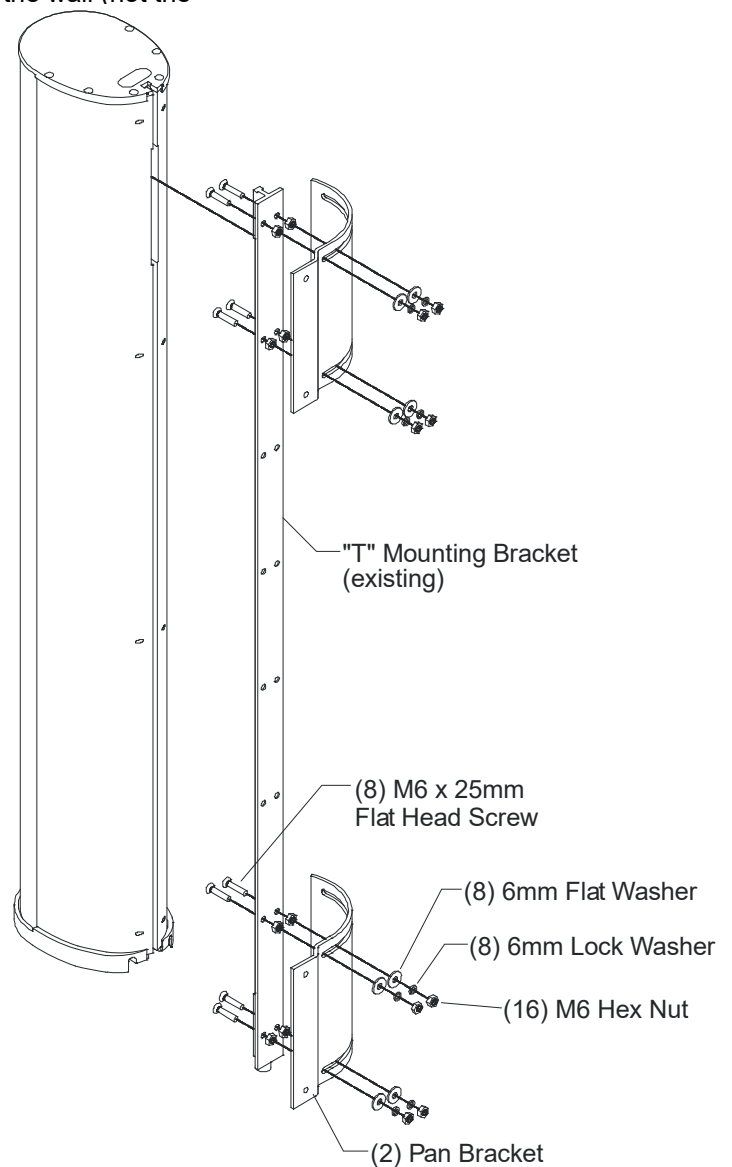

Figure 3. Bracket attachment to single column
- Attach one of the Pan Brackets to the top studs on the T-Bar Bracket and the other Pan Bracket to the bottom studs on the T-Bar Bracket using the hardware as shown in Figures 3 and 4. Tighten the nuts securely.